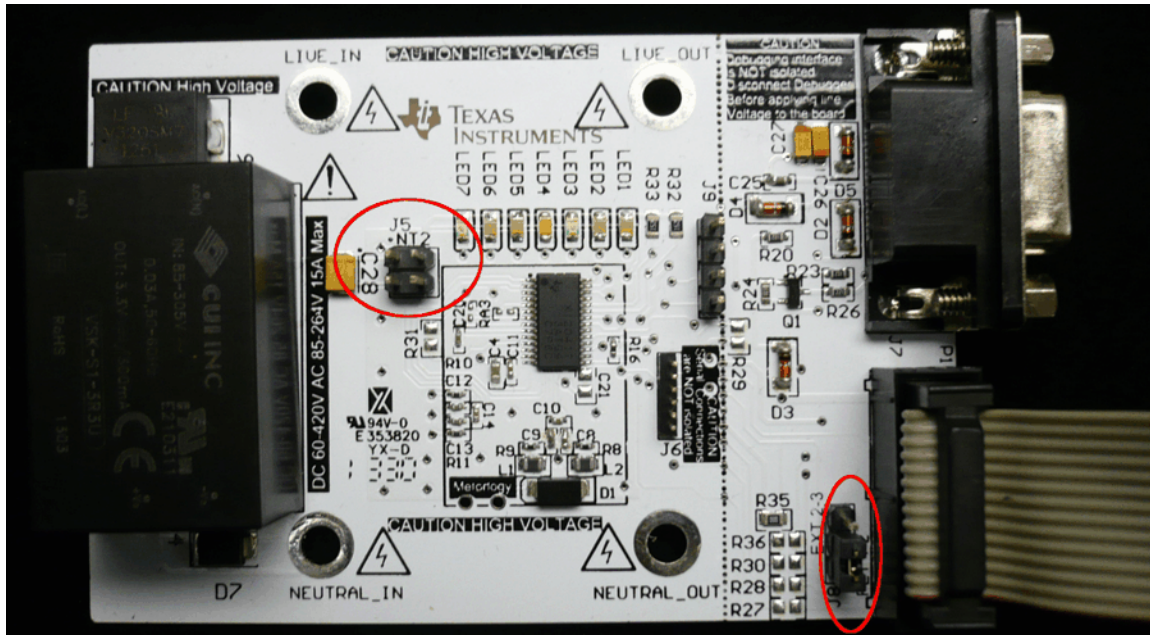

Figure A-7. Connecting EVM and FET
8. Make sure the jumper on J8 is short properly. Connect the 14-pin connector P1 to FET by a flat cable as shown in Figure A-7.